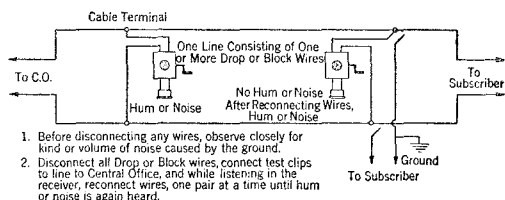

Fig. 7
2.14 In areas where selective ringing is employed and the station ringers are connected to ground the listening test must be applied in the following manner: (See Figure 7.)